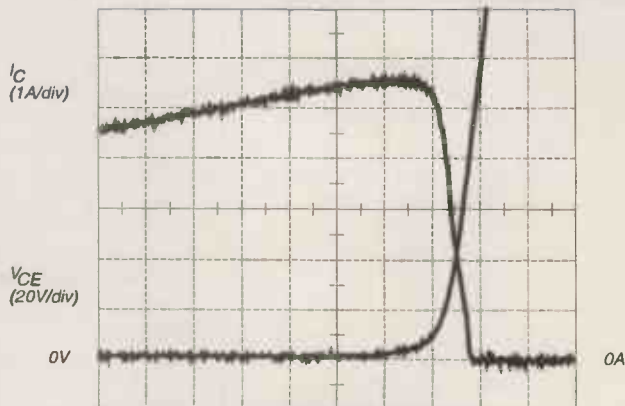

Fig. 7. Horizontal deflection transistor collector current versus collector-emitter voltage during turn off.
- Observe V_{CE} and I_C waveforms during turn-off to when I_C reaches zero. Waveforms for an optimised base drive are shown in Fig. 7.